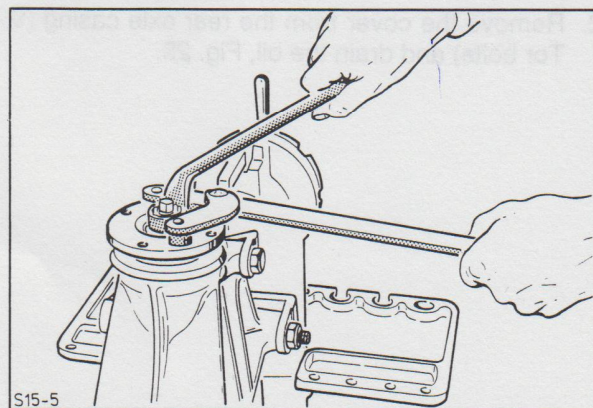

Fig. 31. Remove flange nut, holding flange with Special Tool 15-030.
- Hold the drive pinion flange with Special Tool 15-030 and unscrew the nut, Fig. 31.